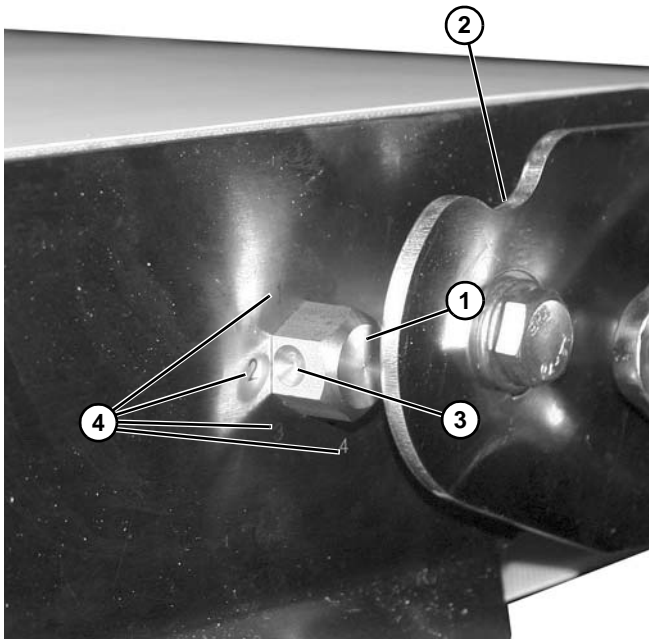

Figure 50
- Rotate idler end so that hex bar (Figure 50, item 1) fits into notched area (Figure 50, item 2).
- Adjust dimpled side (Figure 50, item 3) of hex bar into one of four locations (Figure 50, item 4) (labeled 1-4 on conveyor).
<p>Each rotation of hex bar is approximately 2.5 mm (0.10") of elevation change of tail. The elevation of change of tail is as follows (Figure 50):</p> <ul style="list-style-type: none"> Dimple at position labeled 4 = TAIL AT HIGHEST Dimple at position labeled 1 = TAIL AT LOWEST